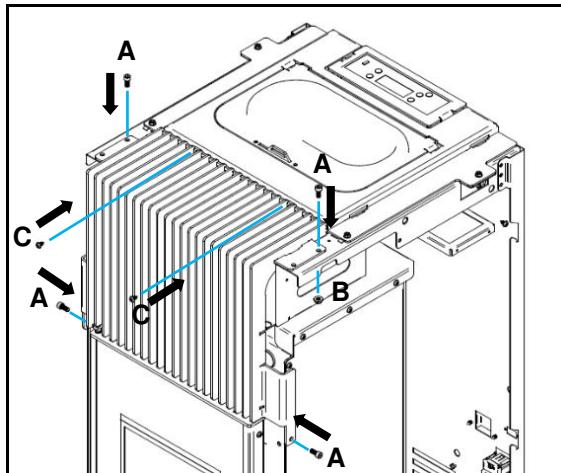

Figure 35 - Front grille tightening
- c) In the upper part of the grate, fasten with two screws **C** (DIN 7981 4,2x9,5) directly to the cover previously placed, then fix with two screws **A** (DIN 912 M5x12) and use nuts **B** (Nuts M5 DIN 6923), finally, with two screws **A** (DIN 912 M5x12) attached to the lower part directly on the machine, as shown in Figure 35.